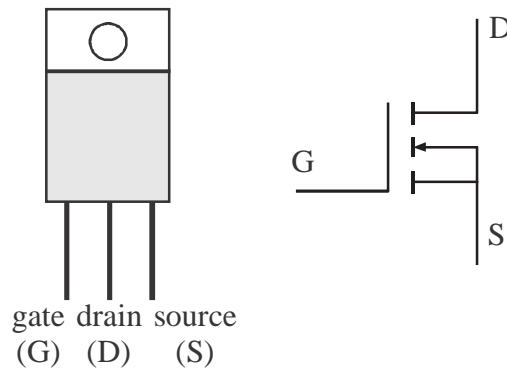

Figure 11.4 MOSFET pin-out and schematic symbol
The motor speed will be controlled with a pulse-width modulation signal. We will use a power MOSFET to switch current to the motor. Figure 11.4 shows the pin-out diagram for the MOSFET. The gate (G), drain (D) and source (S) are analogous to the BJT base (B), collector (C) and emitter (E), respectively. The gate of the MOSFET will be connected directly to a digital output pin on the PIC. The motor is placed on the drain side of the MOSFET with a diode for flyback protection. A MOSFET is easier to use than BJT because it does not require a base (gate) resistor, and you need not be concerned with base current and voltage biasing.